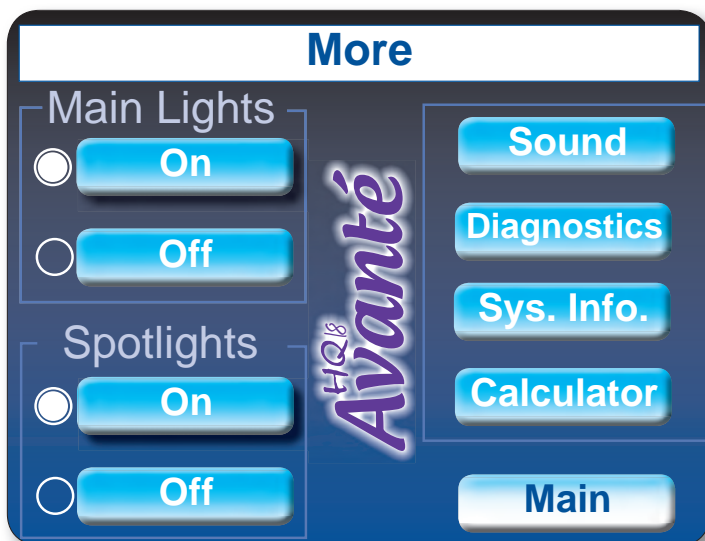

Figure 30
The LED modules in the handlebar are grouped in two sets. One set consists of the three LED modules on each side of the machine, closest to the machine body. These six (total) LED modules are the “Spotlights”. (Figure 30) The remaining modules are the “Main Lights”. There are two boxes on the “More” screen with buttons to turn the “Main Lights” and “Spotlights” on and off as individual groups. This grouping is designed to allow the convenient control of special modules, such as ultraviolet (UV) LEDs, (available as an option) in the Spotlight positions while regular white LED modules are installed in the remaining positions. The white dot next to the buttons indicate whether the lights are on or off. (Figure 31)